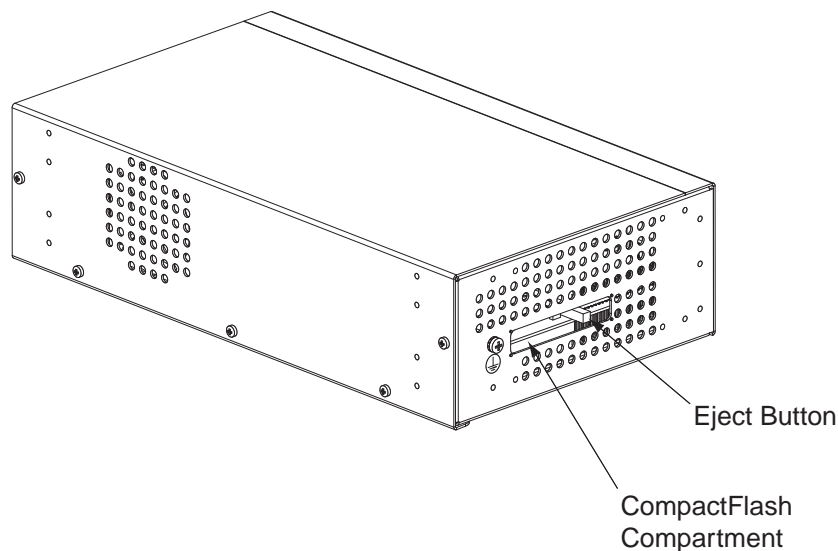

Figure 2-5. CompactFlash Memory Card Compartment
2. Locate the CF compartment (see Figure 2-5).